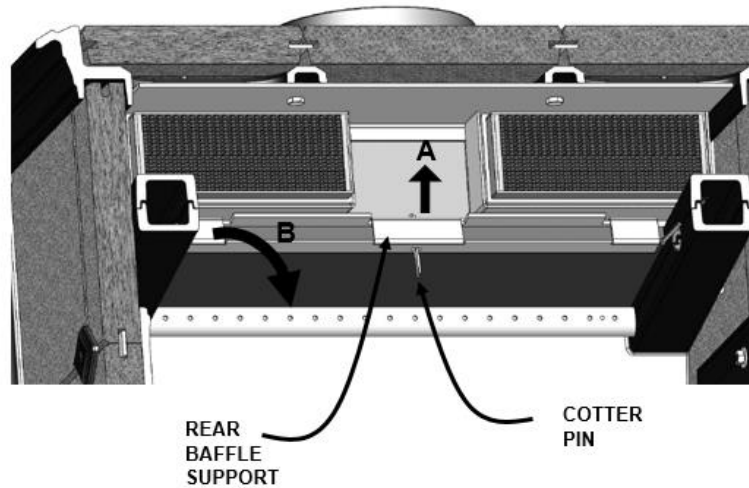

Figure 22 - Removing the Rear Baffle
3. Remove the cotter pin securing the rear baffle support to the catalyst housing (A). See Figure 22.
4. Support the rear baffle while pulling the rear baffle support outwards towards the front of the stove (B)
9. Remove the cotter pin securing the rear baffle support to the catalyst housing (A)
10. Support the rear baffle while pulling the rear baffle support outwards towards the front of the stove (B)